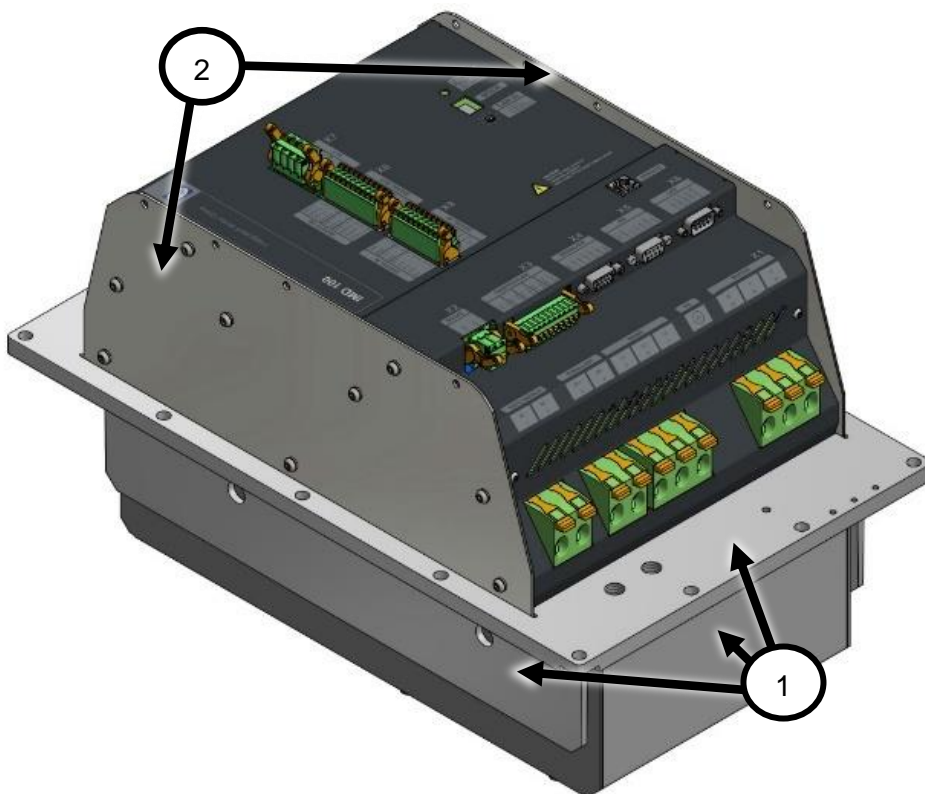

Figure 1 Hot surface areas
Do not touch until the surface (see pos. 1 in Figure 1 on page 13) is cooled down.
Do not touch until the surface (see pos. 2 in Figure 1 on page 13) is cooled down.